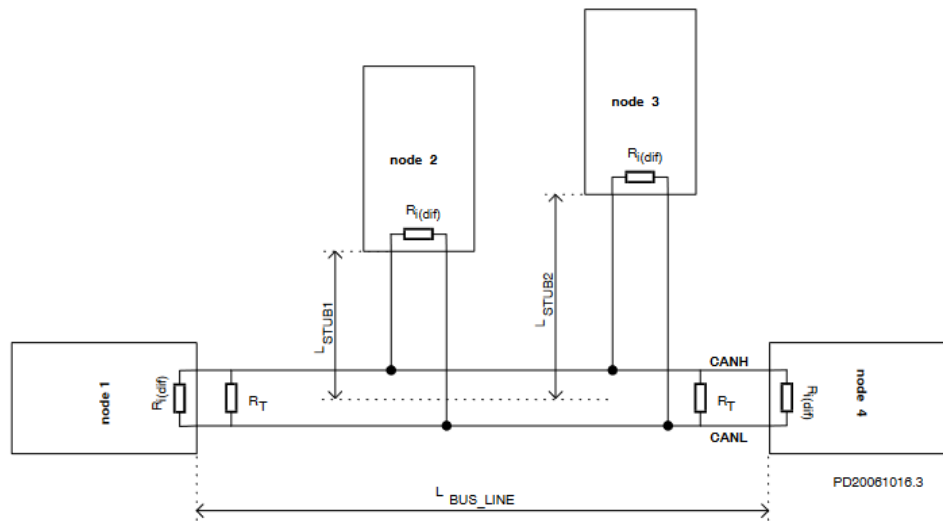

Figure 380: Standard CAN Bus2
**Stub Length:** a CAN bus resembles a long branch with only short ‘stubs’ coming out of it. These stubs are kept shorter than 1 ft in length. See Figure 380.